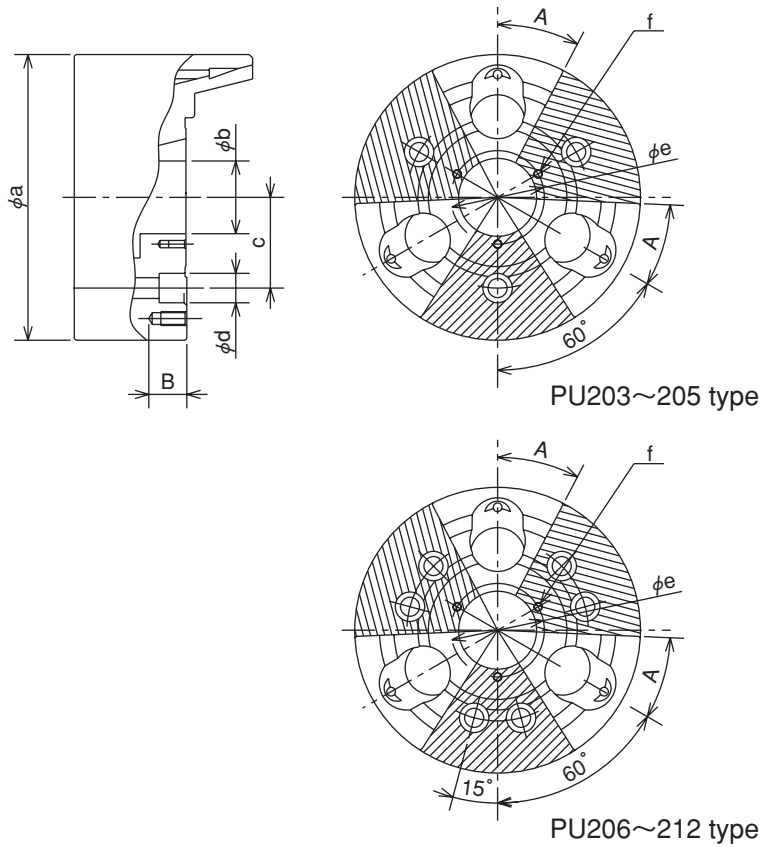

Fig. 8
- In the case of attaching the locator and the jig on the chuck body surface, tap or drill a hole in the additional process range specified in Fig. 8